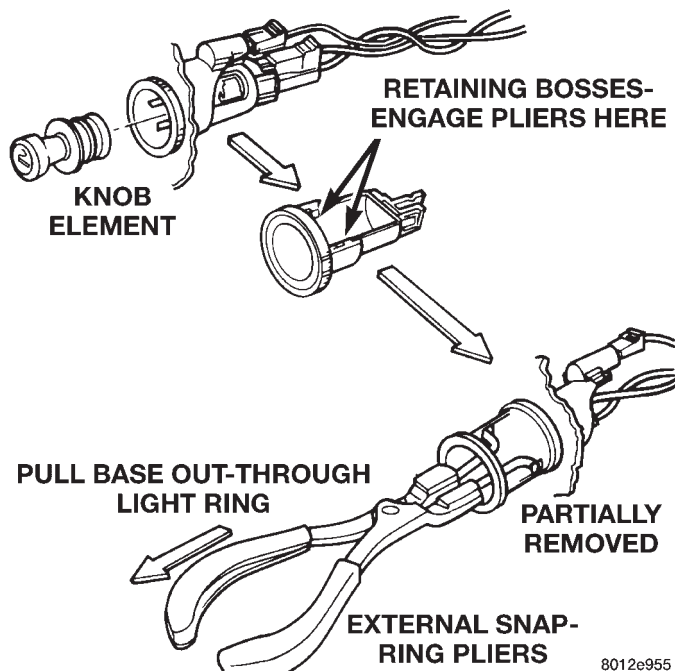

Fig. 15 Cigar Lighter Remove/Install
(1) Disconnect and isolate the battery negative cable.
(2) Pull the cigar lighter knob and element out of the cigar lighter base.
(3) Look inside the cigar lighter base and note the position of the retaining bosses that secure the unit to the light ring/retainer in the instrument panel center bezel (Fig. 15).
(4) Insert a pair of external snap ring pliers into the cigar lighter base and engage the tips of the pliers with the retaining bosses.
(5) Squeeze the pliers to disengage the retaining bosses from the base, and using a gentle rocking motion pull the pliers and the cigar lighter base out of the light ring/retainer.
(6) Remove the pliers from the cigar lighter base and unplug the wire harness connector.
(7) Remove the cigar lighter light ring/retainer from the instrument panel center bezel and unplug the wire harness connector.
(8) Reverse the removal procedures to install.